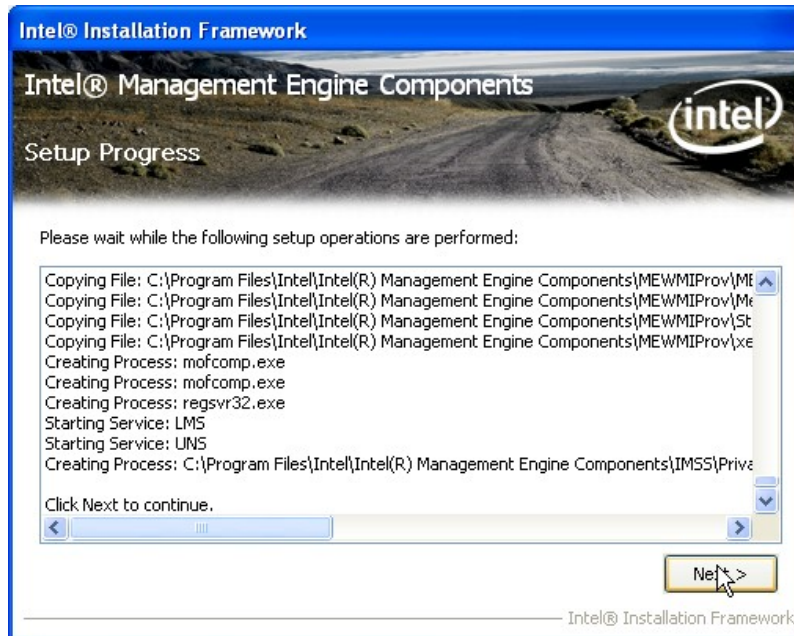

Figure 6-30: Intel® ME Driver Setup Operations
Step 12: Setup Operations are performed as shown in Figure 6-30.